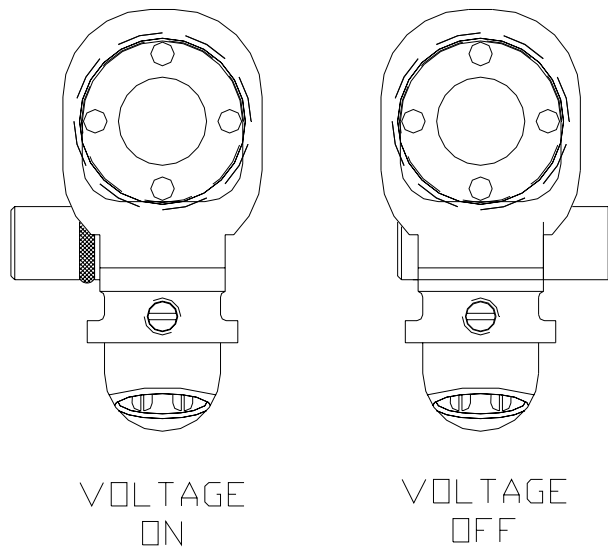

Figure 16: Hook/Transformers Switch Position
5. Make sure that the on/off switch of the hook/transformer is in the "ON" position, if the unit has this option (refer to Figure 16).